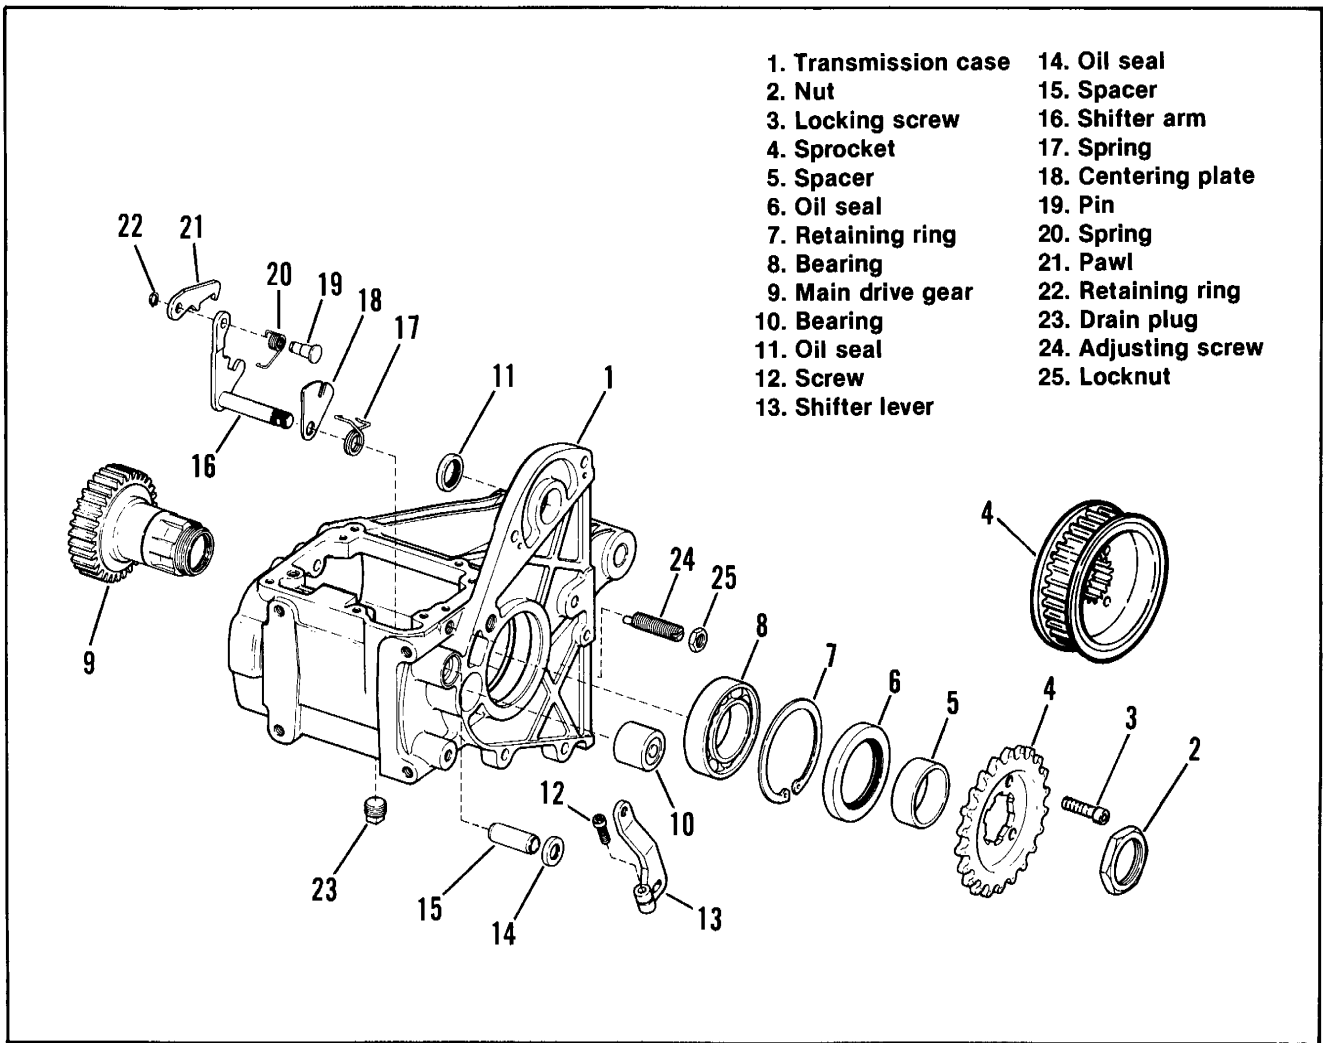

Figure 7-26. Transmission Case, Sprocket and Main Drive Gear
If main drive gear (9, Figure 7-26) was removed, install it now, following the procedures later in the section under ASSEMBLY.
2. Remove transmission sprocket. See section 6. See Figure 7-26. Remove main drive gear as follows:
- a. Remove retaining ring (7).
- b. Pull main drive gear (9), using HD-35316, MAIN DRIVE GEAR REMOVER AND INSTALLER.
- c. Remove bearing (8) from case using a block of wood and a hammer.
4. See Figure 7-26. Loosen screw (12) and remove shifter lever (13) from shifter arm (16).
6. See Figure 7-26. Inspect the springs (17 and 20). Replace the pawl spring (20) if it fails to hold the pawl (21) on the cam pin (19).
7. Inspect the needle bearings on the inside of the main drive gear (9). If mainshaft race surface appears pitted or grooved, replace these bearings.
- 8. See Figure 7-26. Install shifter lever (13) on the shaft end and tighten the screw (12) to 18-22 ft-lbs torque. Make sure screw (12) registers in the slot on the shifter arm (16).
10. See Figure 7-26. Apply Loctite 242 (blue) to the threads of nut (2). Install the spacer (5), sprocket (4), and nut (2) on the main drive gear (9).